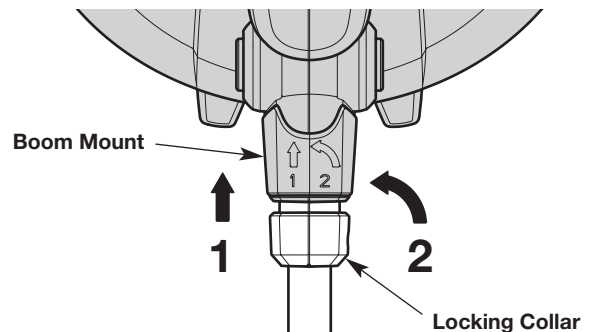

Fig. 18
1. Pull the boom mount away from the locking collar (Fig. 18).
2. Rotate the lower end of the unit counterclockwise 90° (Fig. 18).